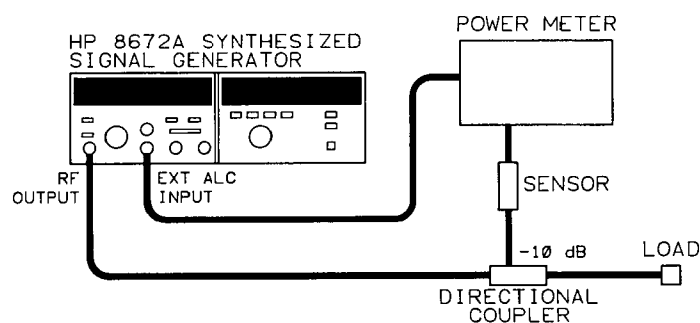

Figure 3-4. External Leveling with a Power Meter
2. Connect the power meter to the point where leveling is to be used as shown in Figure 3-4. A directional coupler can be used to sample the power at the desired point. Set the output level to the desired power and select the range hold function on the power meter. This disables range changes and keeps the leveled power from oscillating.